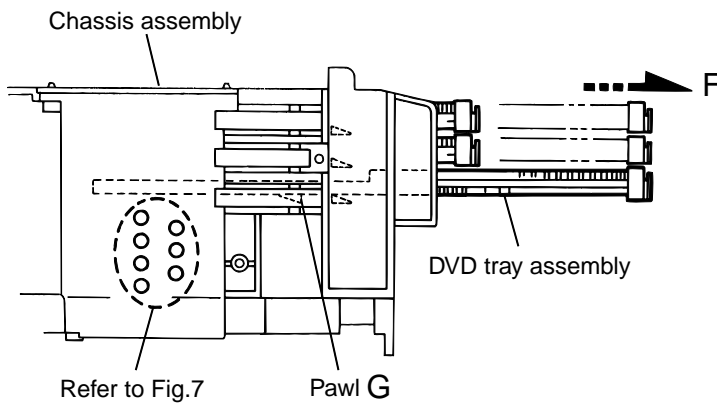

Fig.6
12. Make sure that the driver unit elevator is positioned as shown in Fig.6 from to the second or fifth hole on the left side face of the DVD Traverse mechanism assembly.
14. Pull out all of the three stages of DVD tray assembly in the arrow direction "F" until these stages stop (See Fig.6).